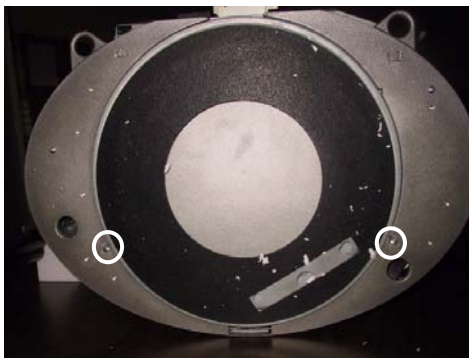

FIGURE 3 - SCREWS SECURING JOYSTICK ASSEMBLY TO BASE
5. Rest the game facedown to access the base. Protect and stabilize the front casing and monitor by prepping the area with cardboard, foam, etc. Remove the two larger screws (one on each side) that are securing the joystick assembly to the base (see Figure 3).